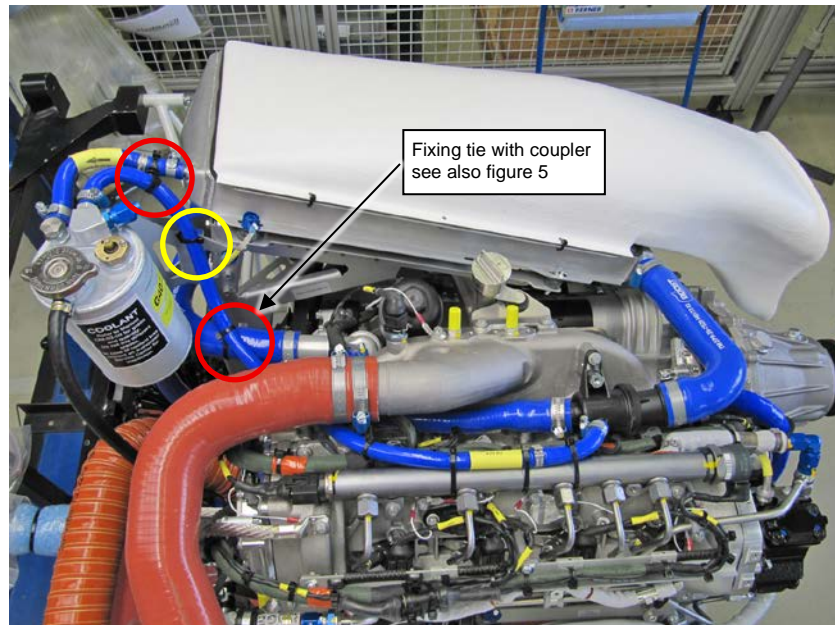

Figure 4: Attaching points fixing ties with coupler (red) and clip with cable tie (yellow)
- f) Additionally secure the vent line with three fixing ties with coupler (item 7) and one clip with cable tie (item 8). Refer to figure 4 and 5.
- g) Finally, attach the thermostat vent line to the expansion tank using a clamp (item 5) as well as reconnect the bleeder hose, the lower coolant hose and the sensor wire.